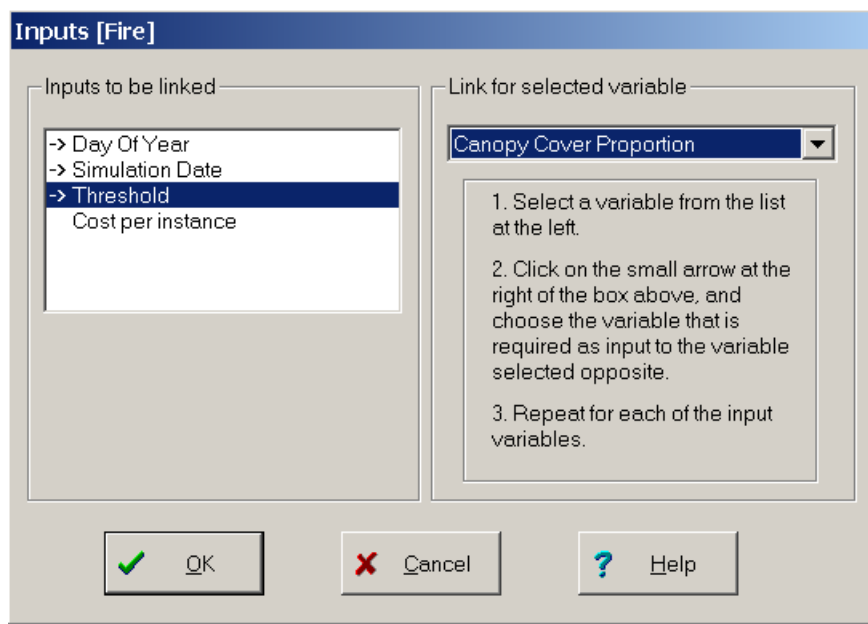

Figure 13.3 Event 'Link' window
5. Select the '**Inputs**' button and obtain the link window (Figure 13.3)